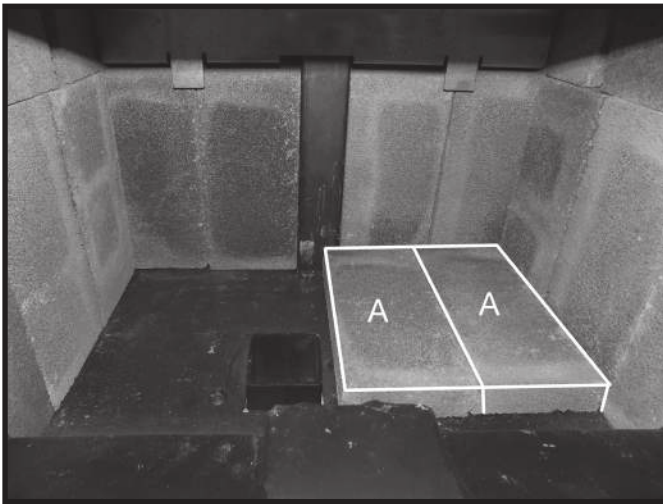

Figure 23: First two floor bricks in place.
8. Place two "A" firebricks on the firebox floor as shown in Figure 23.